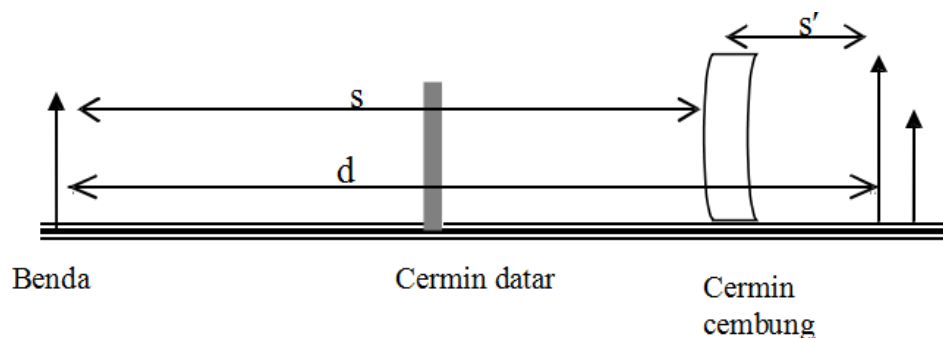

Figure 4. Experimental scheme of image formation on convex mirrors
1. Set tools as shown in figure 4.